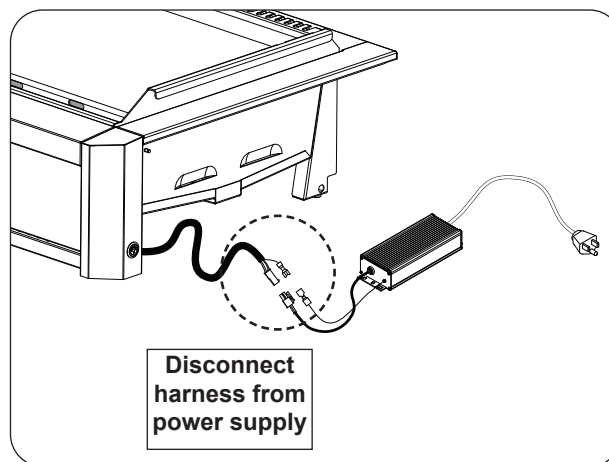

Fig. 28-1 Disconnect harness
- Locate the power supply, disconnect the harness extension from the power supply, and set the power supply aside. See Fig. 28-1.